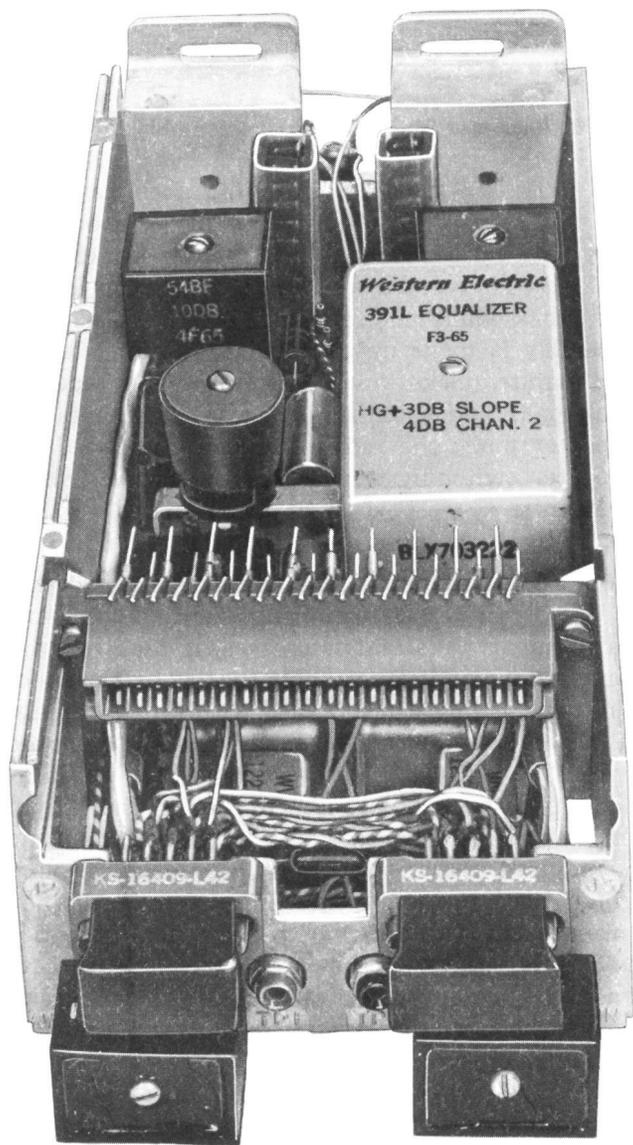

Fig. 1 — N2 Repeater to N1A Adapter Assembly
2.03 The N2 repeater to N1A adapter assembly is illustrated in Fig. 1. This unit, which is very similar to one subassembly of an N2 repeater shelf, is a metal casting which contains a printed wiring board, test points, jacks, and sockets. The adapter assembly plugs into an N1A repeater mounting and in turn serves as a mounting for the N2 repeater. The printed wiring board in the